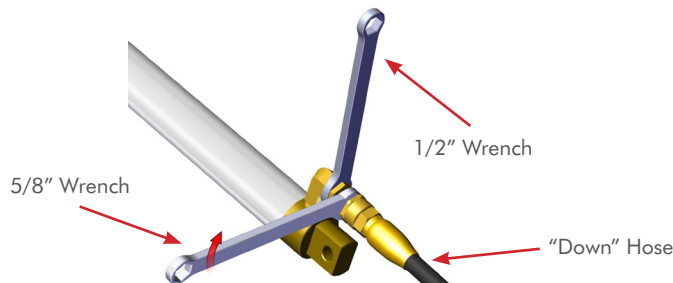

Figure 9
STEP 8 Hand-tighten "Down" cylinder fitting base to hydraulic cylinder. While holding the "Down" cylinder fitting base with a 1/2" wrench, turn the hose fitting clock wise a quarter turn with a 5/8" wrench. (**FIG. 9**)